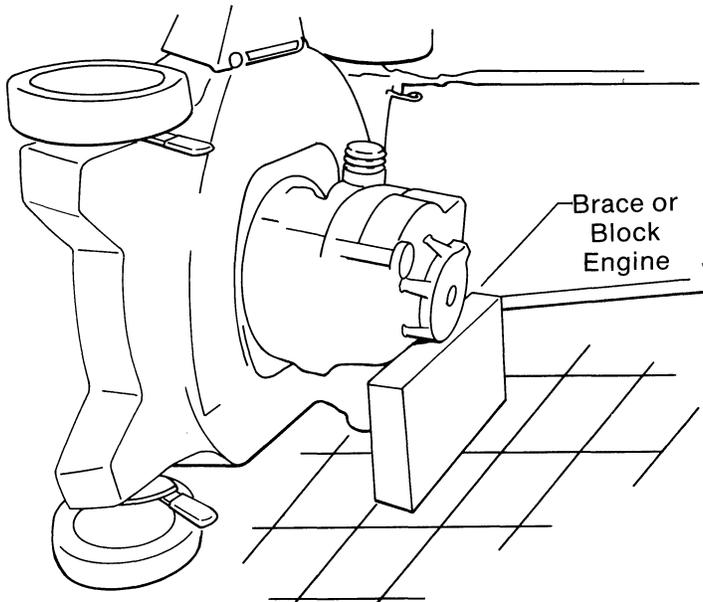

FIG. 15
- F. To remove engine mounting hardware, lay mower on its left side and brace or block engine as shown (Fig. 15).